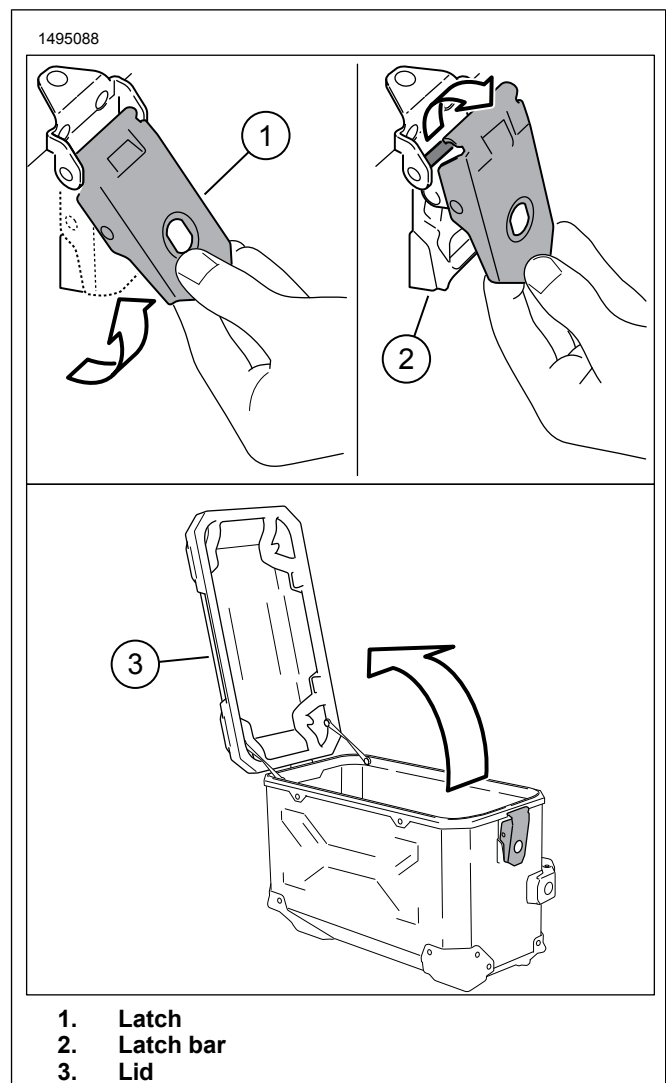

Figure 2. Opening Lid
1. Figure 2 Pull latch (1) of lid (3) upwards.
2. Remove it from latch bar (2).
3. Open lid (3).